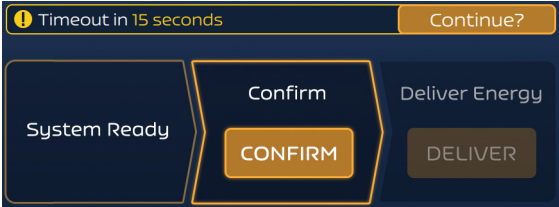

Figure 8. Timeout Warning Message
3. Once the PREPARE button is pressed, it will be enabled for approximately four minutes. If this time is exceeded, the FARASTAR PFA Generator will return to the "Idle" state, which will necessitate re-initialization. A countdown timer will appear within 15 seconds of the timeout. The CONTINUE button may be pressed during this countdown to start a second four minute timeout period (see Figure 8). If the second timeout period is exceeded, the FARASTAR PFA Generator will return to the "Idle" state which will necessitate re-initialization.
Note: that the DELIVER button is only enabled for 10 seconds, after which CONFIRM must be pressed again. Also, the CONFIRM button will be enabled for 4 minutes. If this time is exceeded, the FARASTAR PFA Generator will return to the Idle state which will necessitate re-initialization. A countdown timer will appear within 15 seconds of the timeout. The CONTINUE button may be pressed during this countdown to start another four minute timeout period (see Figure 8).